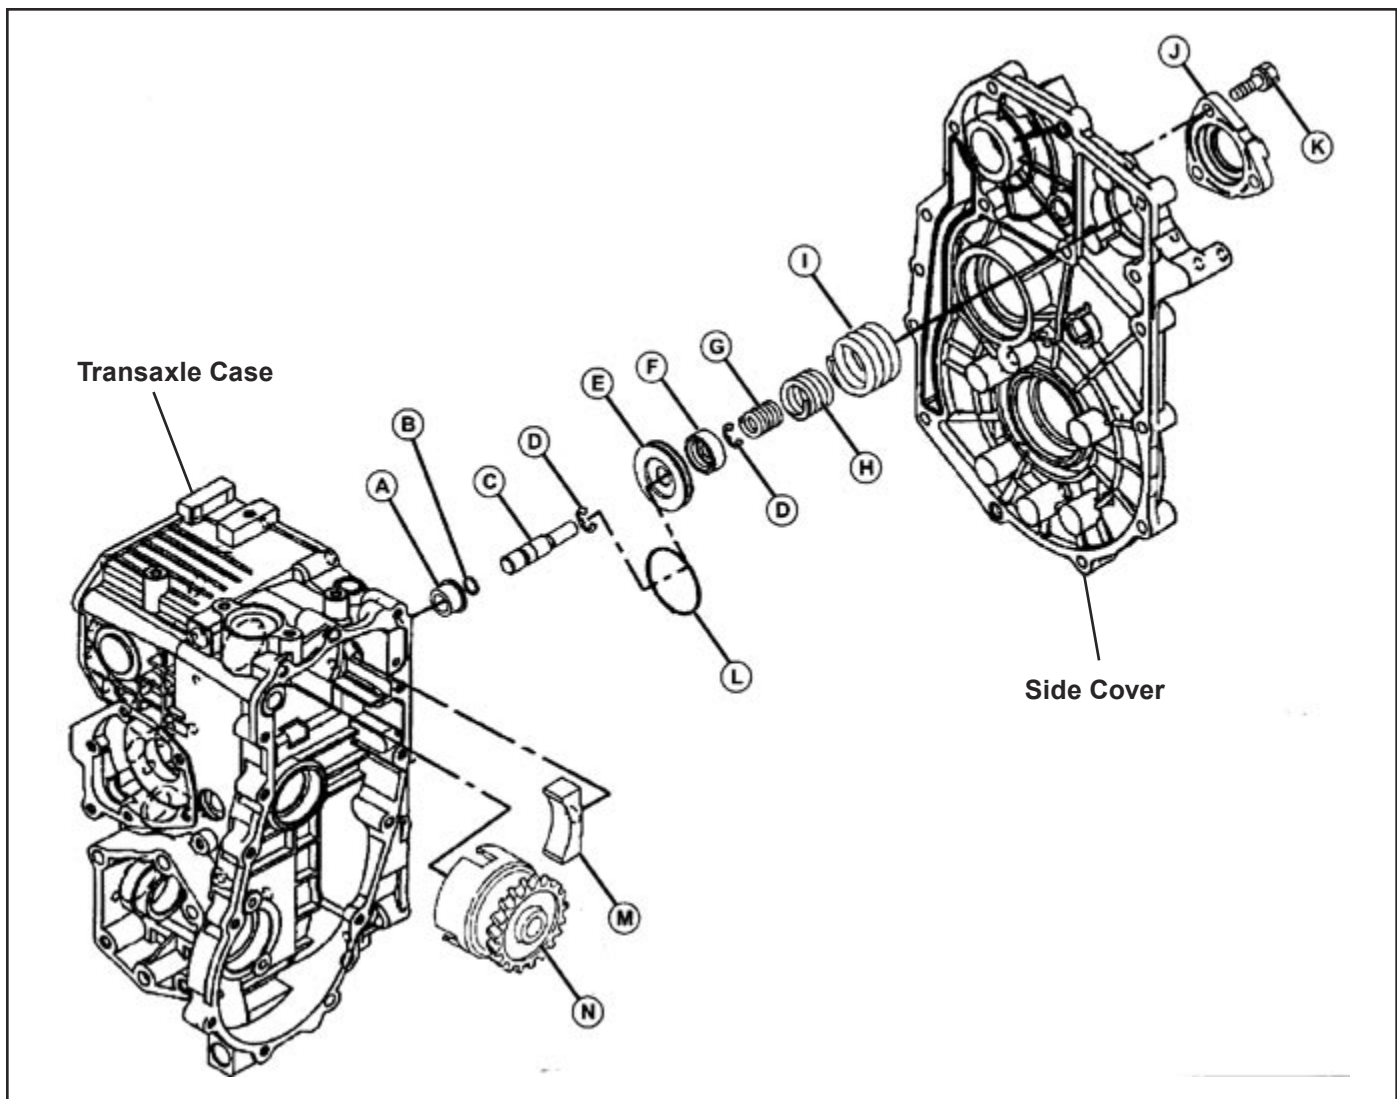

Fig. 17, PTO Brake Disassembly
PTO Brake Disassembly, Inspection and Assembly (Fig. 17)
1. Carefully pull piston assembly from case using a pliers. Do not damage pin. (Fig. 17)
2. Remove PTO clutch assembly (N) and brake shoe (M) together.